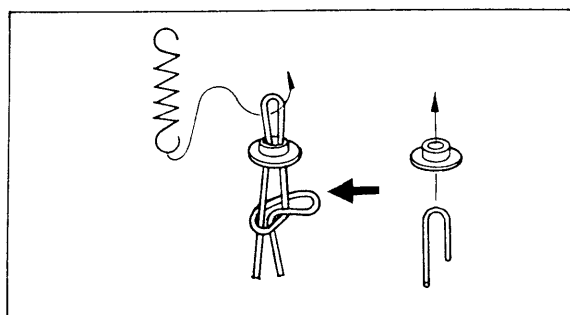
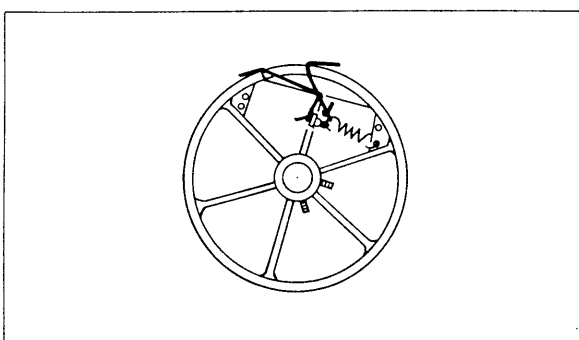

Fig. 2-9. Detail of dial cord finish
Fig. 2-10. End of dial cord stringing
5. Pass the doubled end of the cord through the eyelet (See Fig. 2-9), then hook it to the spring as shown in Fig. 2-10.
6. Tighten the cord, then squeeze the eyelet so that the spring is under tension. Make a knot in the cord end to keep it from slipping out of the eyelet. See Fig. 2-9.